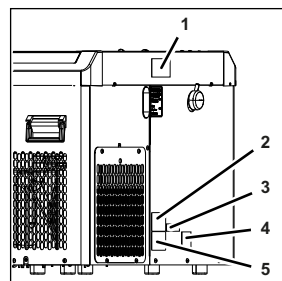

Fig. 9
- Fig. 9/1 Dangerous voltage warning sign
- Fig. 9/2 Unit type plate
- Fig. 9/3 Python connection warning sign
- Fig. 9/4 Refrigerant warning sign
- Fig. 9/5 Carbonator type plate